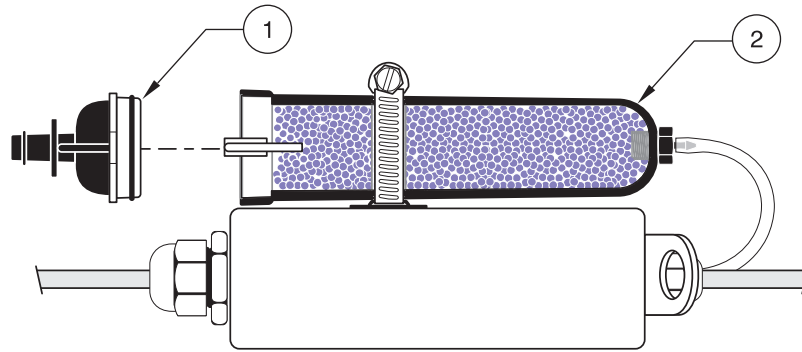

Figure 19 Removing the Bottom End Cap
1. Use a slight twisting motion to twist the bottom end-cap until its slots align with the retaining clips (Figure 19).